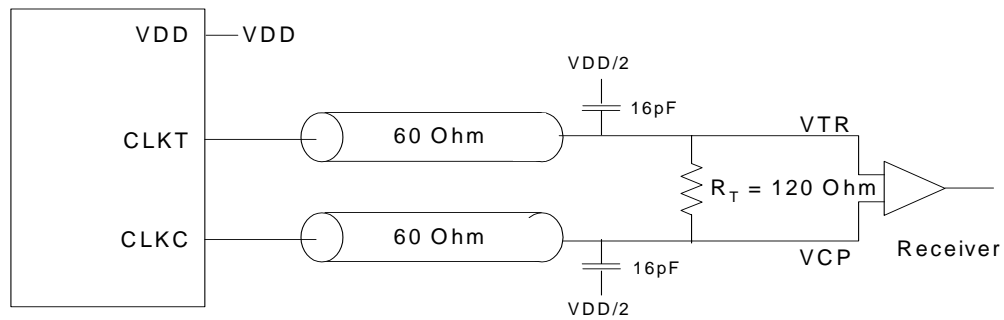

Figure 6. Differential Signal Using Direct Termination Resistor
- For load conditions see *Figure 6*.
- The value of  $V_{OC}$  is expected to be  $|V_{TR} + V_{CP}|/2$ . In case of each clock directly terminated by a  $120\Omega$  resistor. See *Figure 6*.
- All outputs switching loaded with 16 pF in  $60\Omega$  environment. See *Figure 6*.
- All differential input and output terminals are terminated with  $120\Omega/16$  pF as shown in *Figure 6*.